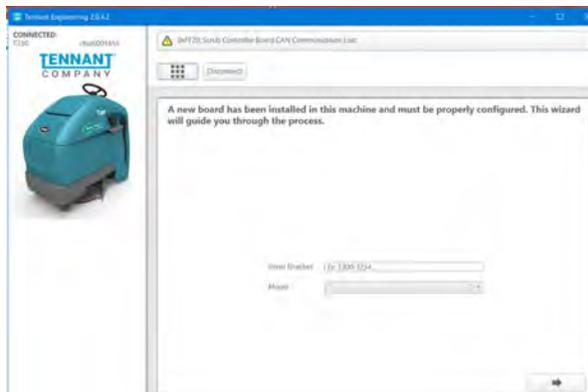

FIG. 53
54. The Service Diagnostics tool automatically detects a new board was installed. A Service Diagnostic window with text "A new board has been installed in this machine and must be properly configured. This wizard will guide you through the process." appears on the screen. (Fig. 53)